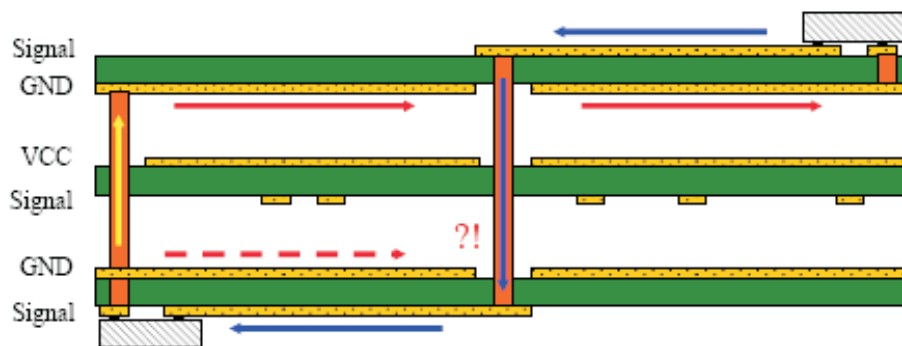

Figure 14. Loop Areas Caused by Poor Via Placement
Figure 14 illustrates another problem with vias – loop areas. The designer has to make sure that the return current can flow ideally underneath (beside) the signal trace. A good way to realize this is to add some ground vias around the signal via. This is a similar structure to a coaxial line. Care must be taken, if the new layer has another distance to the reference plane. This can cause reflections due to an impedance change.
- Be careful with the return current when changing the layers. Use ground vias around the signal via to make sure that the return current can flow as close as possible to the signal (Figure 14).